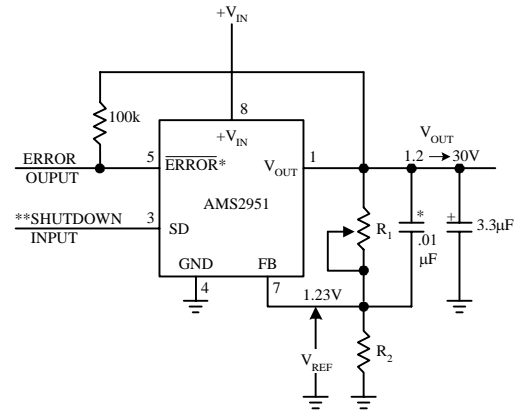

FIGURE 2. Adjustable Regulator
The AMS2951 may be pin-strapped for the nominal fixed output voltage using its internal voltage divider by tying the output and sense pins together, and also tying the feedback and V_{TAP} pins together. Alternatively, it may be programmed for any output voltage between its 1.235V reference and its 30V maximum rating. As seen in Figure 2, an external pair of resistors is required.
*When $V_{IN} \leq 1.3V$ the error flag pin becomes a high impedance, and the error flag voltage rises to its pull-up voltage. Using V_{out} as the pull-up voltage (see Figure 2), rather than an external 5V source, will keep the error flag voltage under 1.2V (typ.) in this condition. The user may wish to drive down the error flag voltage using equal value resistors (10 k Ω suggested), to ensure a low-level logic signal during any fault condition, while still allowing a valid high logic level during normal operation.